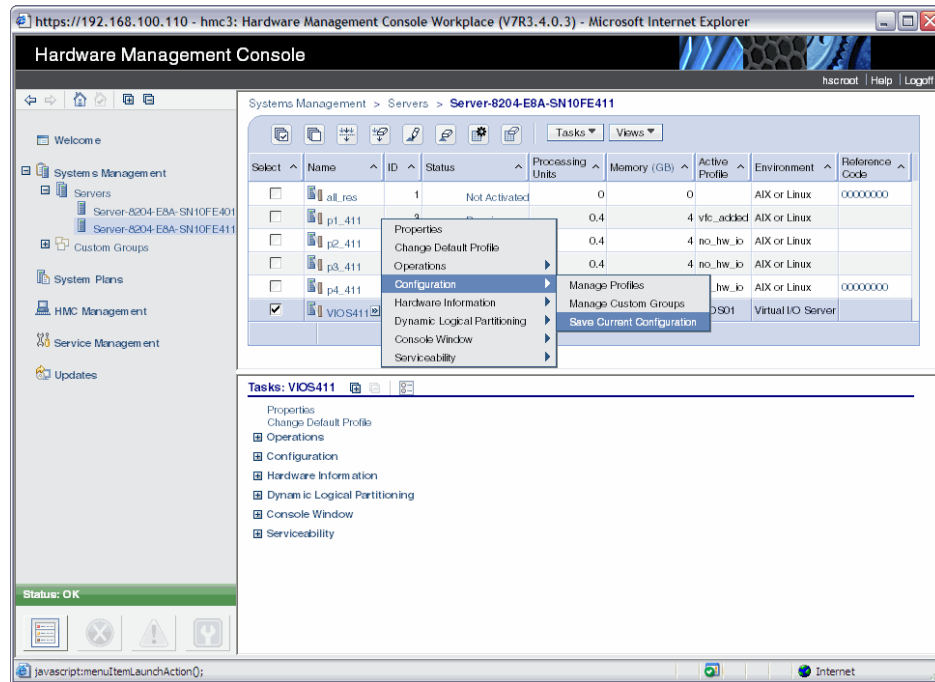

Figure 7-5 Save the Virtual I/O Server partition configuration
- e. Remember to update the profile of the Virtual I/O Server partition so that the change is reflected across restarts of the partitions. As an alternative, you may use the **Configuration**  **Save Current Configuration** option to save the changes to the new profile. See Figure 7-5, which shows the location of the panel similar to what your HMC will present.